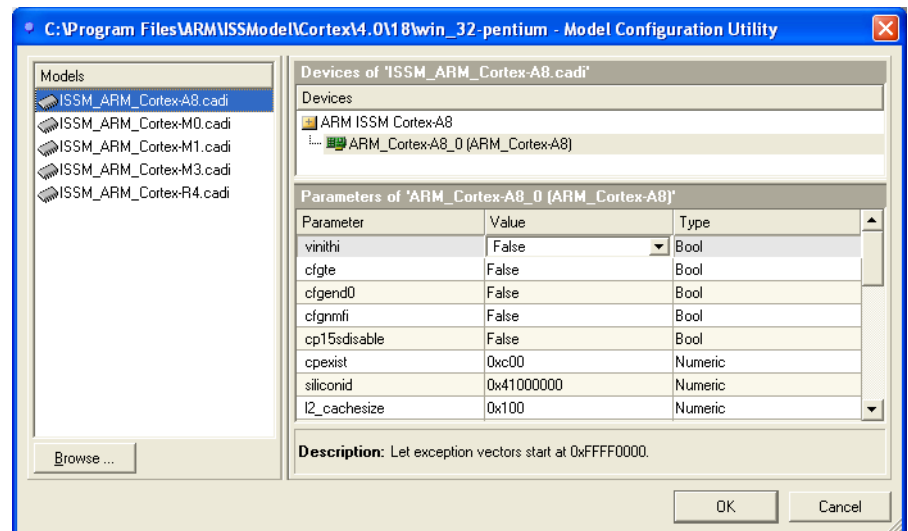

Figure 2-5 Model Configuration Utility dialog box
- e. Select a model from the Models list. Figure 2-5 shows an example: